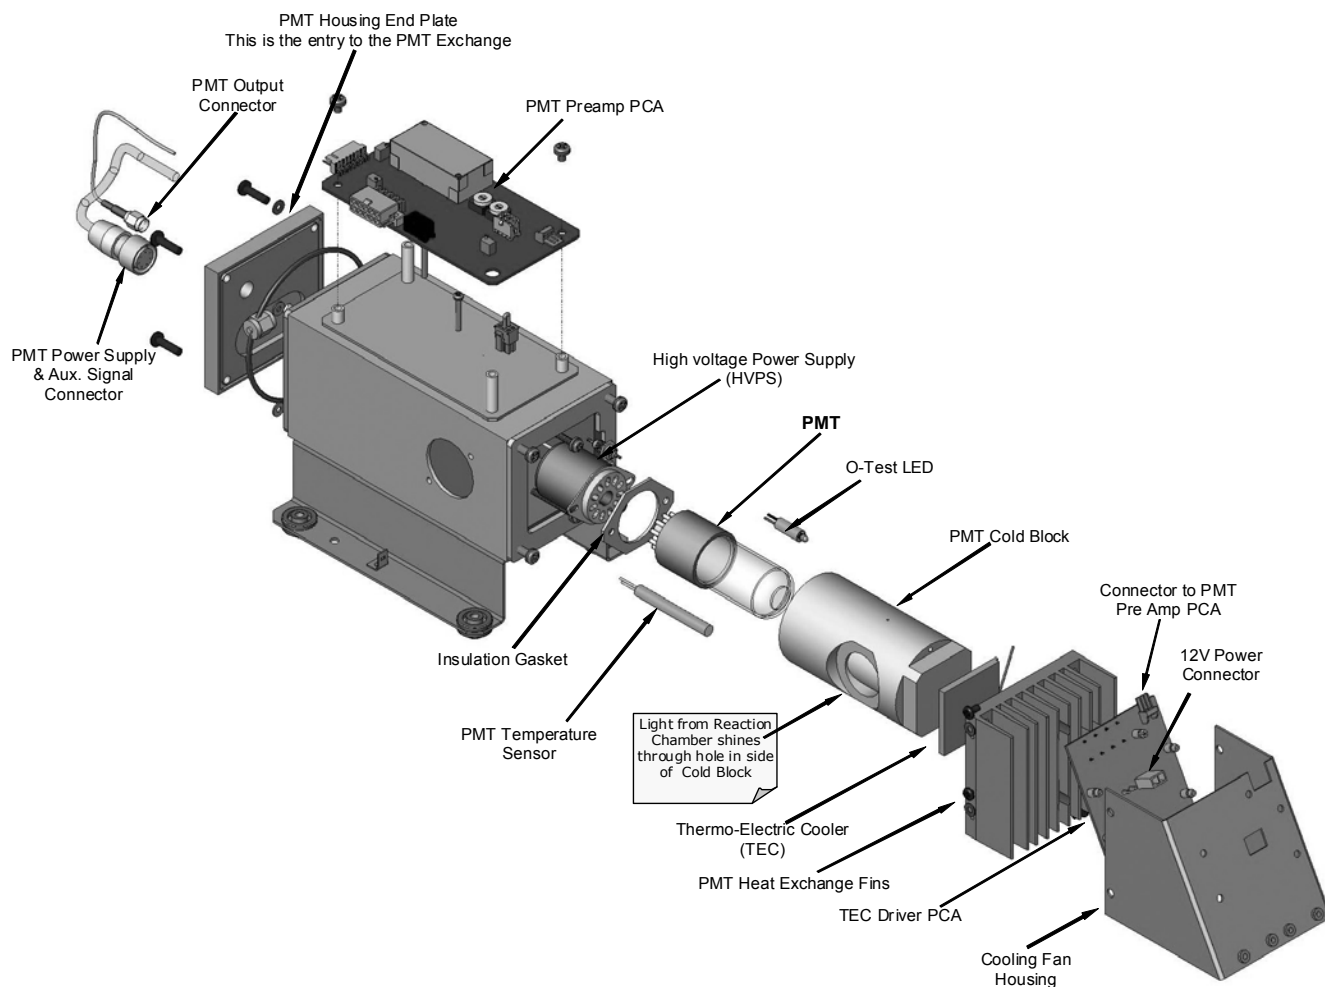

**Figure 11-2. Disassembling the Shutter Assembly**
3. Remove 4 screws from the shutter cover (see Figure 11-2) and remove the cover.
4. Remove 4 screws from the UV filter retainer (see Figure 11-2).